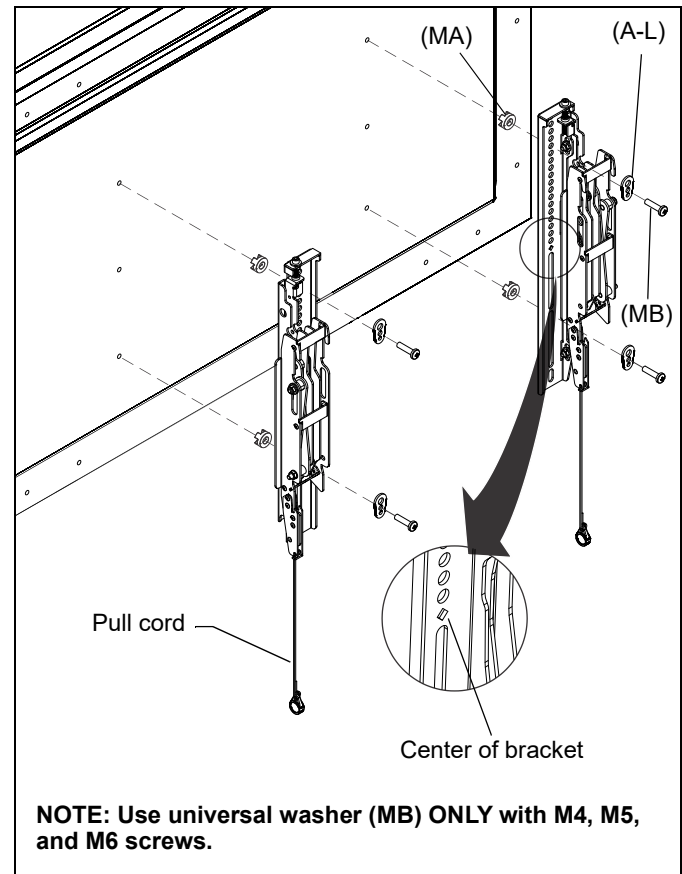

Figure 9
1. Align the center of the brackets (S and T) with center of screen. (See Figure 9)
2. Select correct screws, nesting spacers (if necessary) and universal washers (if required) from the hardware bag (A-L) and attach brackets to back of screen. (See Figure 9)